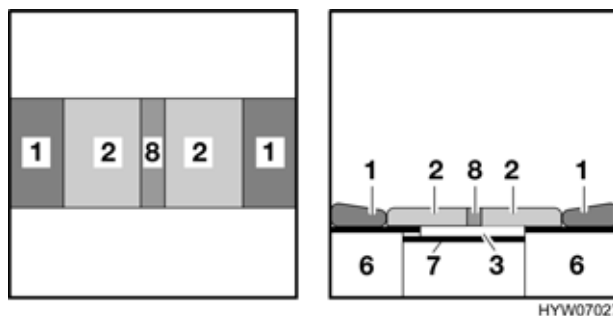

Fig. 98 After conversion
- Place the two seat cushions (Fig. 98,2) in the centre.
- Insert the back cushions (Fig. 98,1) between the seat cushions and the exterior wall.
- Lay the additional cushion (Fig. 98,8) between the seat cushions.